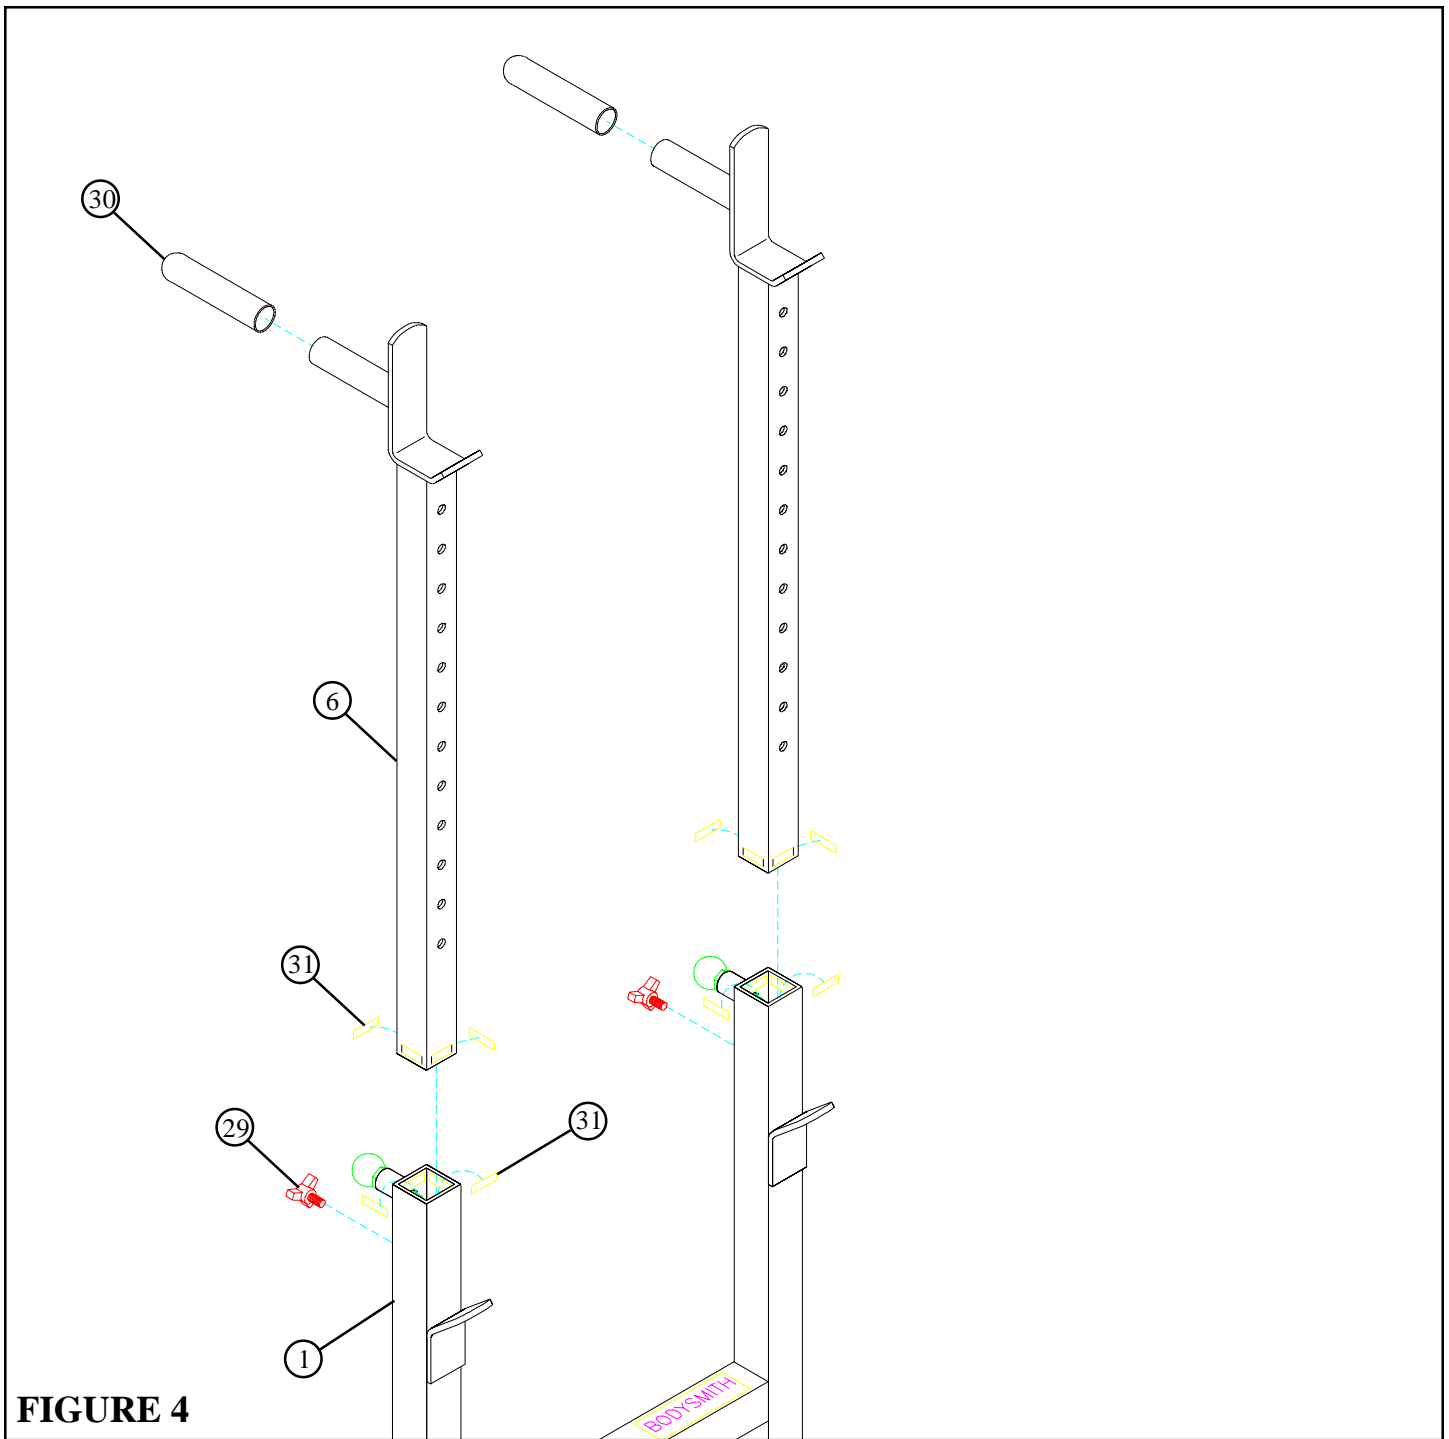

FIGURE 4
- Attach eight PARAGLIDE STRIPS (31) to both UPRIGHT TUBES on the UPRIGHT FRAME (1) (FOUR ON EACH END) as shown in FIGURE 4 using the following steps:
- Attach eight PARAGLIDE STRIPS (31) to each SADDLE (6) (FOUR ON EACH END) as shown in FIGURE 4.
- Slide two 1-1/4 X 5" GRIPS (30) over the DIP HANDLES of both SADDLES (6). **(IF A LUBRICANT IS REQUIRED, COAT THE INSIDE OF THE GRIP WITH RUBBING ALCOHOL.)**
- Pull back the SPRING PIN on the UPRIGHT TUBES, and insert the SADDLES (6) as shown in FIGURE 4.. Slide the SADDLE (6) down to the desired height and release the SPRING PIN into the hole.
- Secure the SADDLES (6) in place with two THUMBSCREWS (29) as shown in FIGURE 4. When ready to perform the DIP EXERCISE, simply insert the SADDLES (6) into the UPRIGHT TUBES and tighten the two THUMBSCREWS